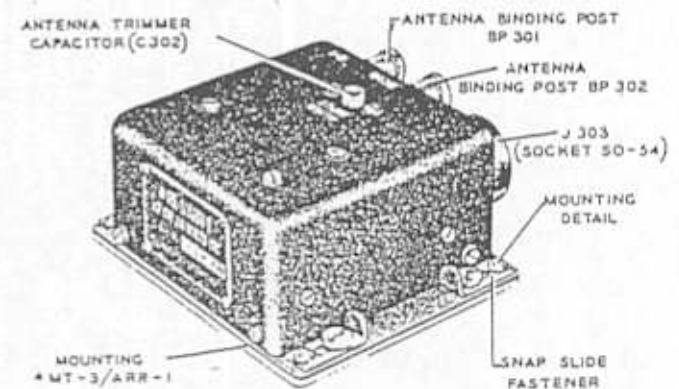

Figure 4—Relay *RE-1/ARR-1 (or *RE-1A/ARR-1), Front View
c. RELAY *RE-1/ARR-1 (OR RELAY *RE-1A/ARR-1).—The relay is constructed of black crackle-finished metal. Figure 4 shows the front of the
d. MOUNTING *MT-3/ARR-1.—This mounting, shown in figure 1, consists of an aluminum plate with four mounting details and four countersunk holes. In figures 4 and 5 it is shown attached to the rotary relay.